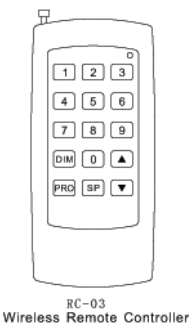

Fig.7
6.Wireless remote controller using(See Fig.7):